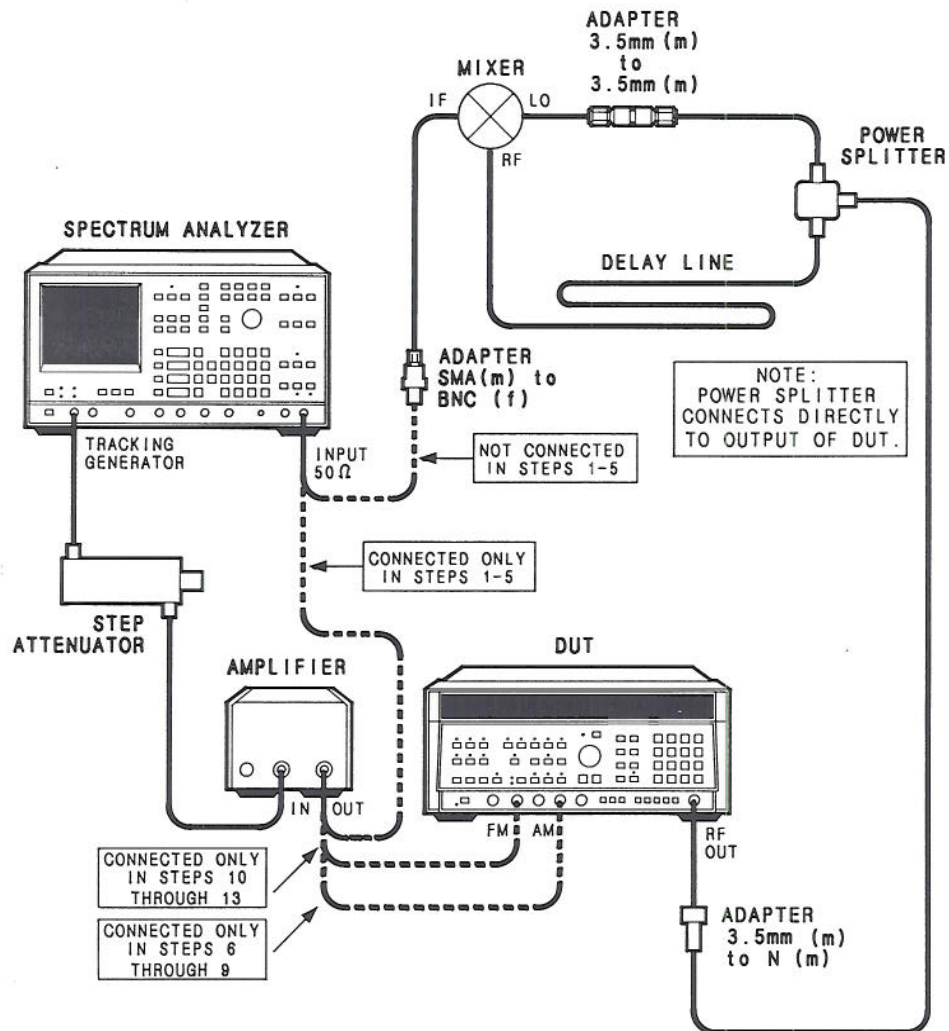

Figure 4-23. FM Flatness Setup
1. Refer to Figure 4-23, FM Flatness Setup. Connect the test equipment as shown. Connect the output of the amplifier to the 50 Ohm input of the spectrum analyzer. The spectrum analyzer should not be connected to the mixer at this time.